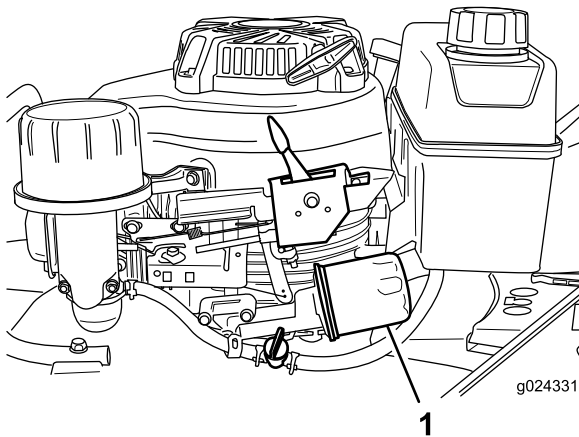

Figure 21
6. Place a rag under the oil filter (Figure 21) to catch any oil that may leak out as you remove the oil filter.